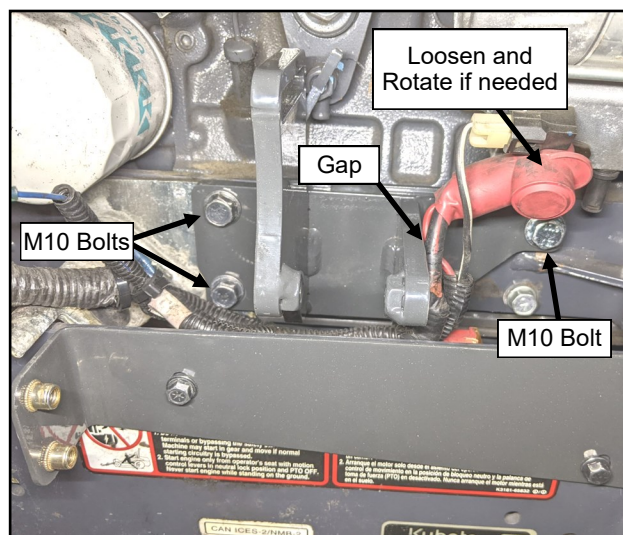

Fig. 1.8 (Install compressor mounting bracket)
1.8 See fig. 1.8. Install the compressor mounting bracket behind the alternator wiring. The alternator wiring does not need to be removed, but be careful going past with the bracket. Secure with the hardware listed below.